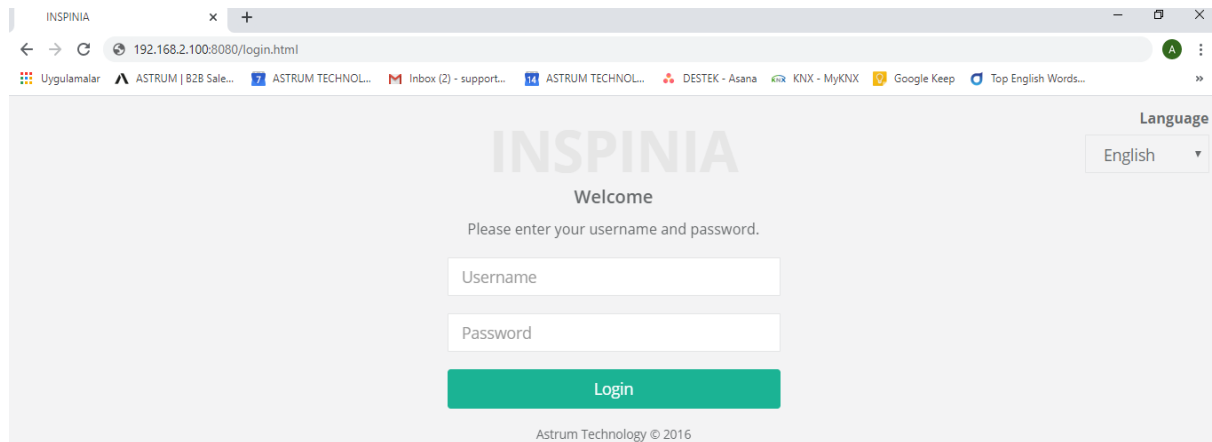

Figure 1.2
- You can access the user interface as shown in the above picture. User interface (Figure 1.2)